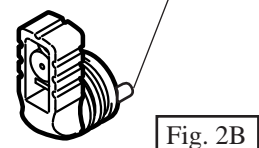

Fig. 2B
1. Apply grease RA No.1 (Brown) to the top of change lever's pin. See Fig. 2B.